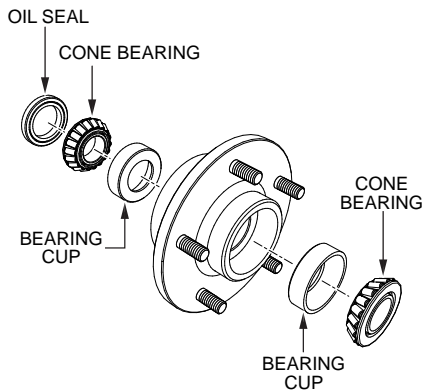

Figure 42. Wheel Hub and Bearings
1. After **every 3 months** of operation, remove the hub dust cap and inspect the wheel bearings (Figure 42). Once a year, or when required, disassemble the wheel hubs remove the old grease and repack the bearings forcing grease between rollers, cone and cage with a good grade of high speed wheel bearing grease (never use grease heavier than 265 A.S.T.M. penetration ("No. 2.")).
2. Fill the wheel hub (Figure 42) with grease to the inside diameter of the outer races and also fill the hub grease cap. Reassemble the hub and mount the wheel. Then tighten the adjusting nut, at the same time turn the wheel in both directions, until there is a slight bind to be sure all the bearing surfaces are in contact.